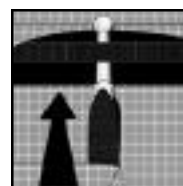

Figure 24
1. Insert one of the four clear plastic WA-11 toggles on the pocket, ball-end first, upward through one of the WA-11 black webbing slots on the packbag. **Refer to Figure 24.**